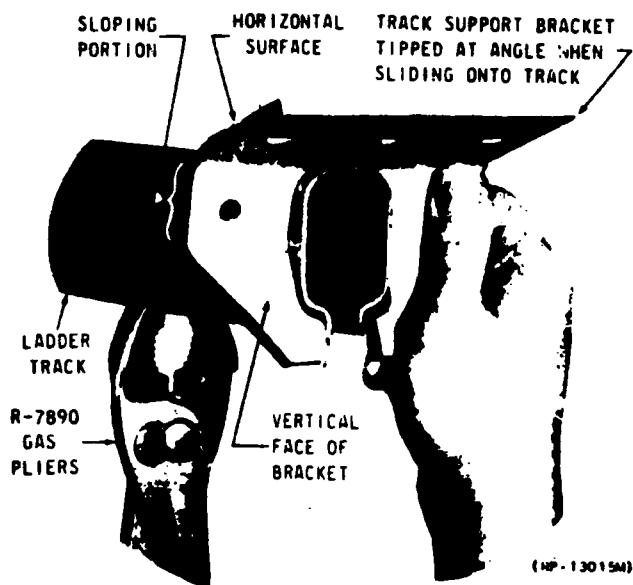

FIG. 8A ASSEMBLING SHEET STEEL HANGER
- 4.214 Tipping the angle type sheet steel hanger brackets, P-452149, (View D in Figure 9) at an angle when assembling them on the track gives, in effect, an elongated opening and prevents binding on the upper and lower surfaces. Binding on the sides can usually be eliminated by squeezing the track with the 10" Gas Pliers, R-7890, as illustrated in Figure 8A. Where the dimensions of the track are such that the use of the pliers is ineffective, the location of the hanger brackets should be marked on the track and a bench vise used for the compressing operation. Protection should be used over the vise jaws to prevent marring the finish on the track.